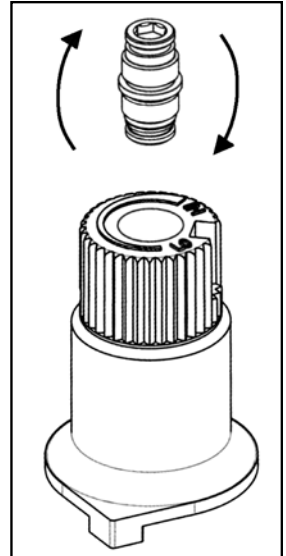

Figure 12: Flip valve screw.
d) Flip the screw (refer to Figure 12).